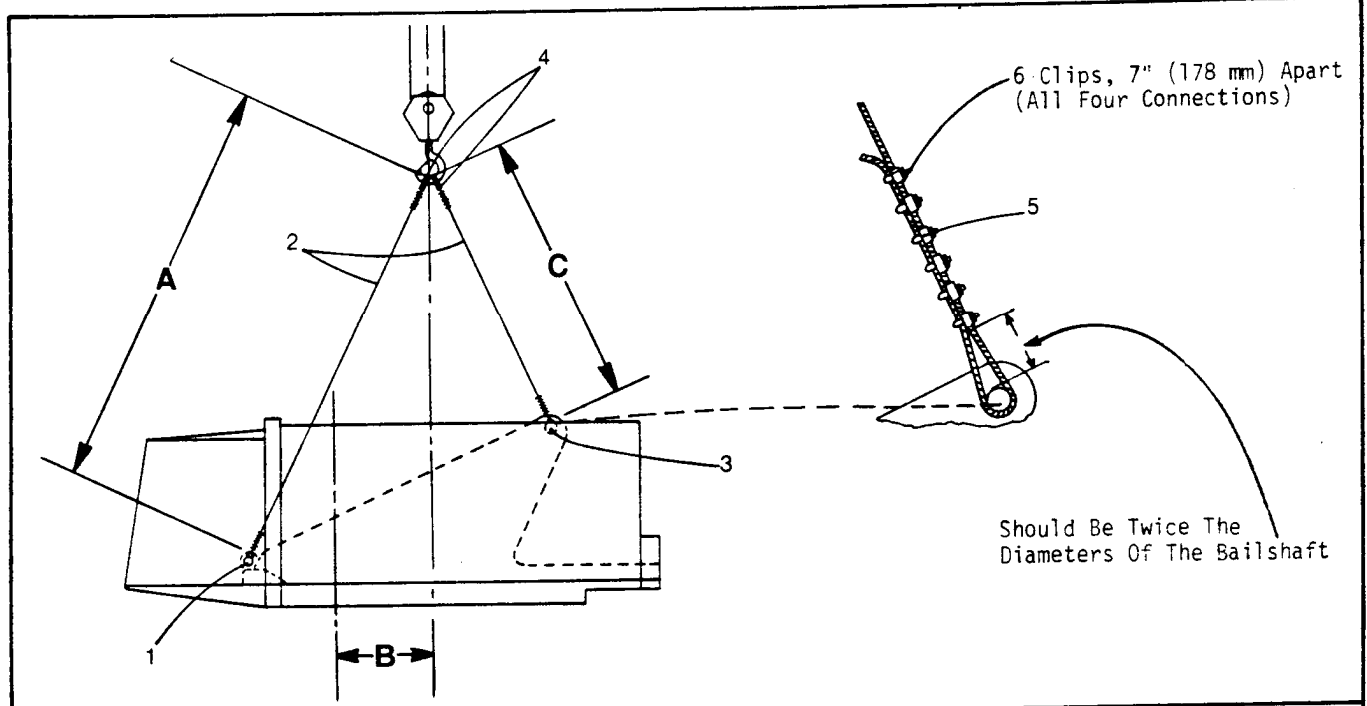

Fig. 1
- (b) Attach slings to upper. (See Fig. 1). Connect one leg to each boom foot pin, and one leg to each end of the extended boom hoist bail shaft. (Where the boom backstops mount). Install keeper pins or cotter pins in the boom foot pins to prevent their working out. Install a large washer, or a plate with a flame cut hole in the center over the bail shaft to prevent sling slipping off. Install a cotter pin or capscrew and locknut in the hole at each end of bail shaft to retain the washer or plate.
with a minimum breaking strength of at least 51 tons (46,266 kg.). FMC type N is recommended. Use new rope straight off the reel for making up the sling. Never use used, scrapped, or damaged rope for a sling as an accident may occur. Refer to Fig. 1 for more information. See section 10 in operator's manual for information on installation of wire rope clips.